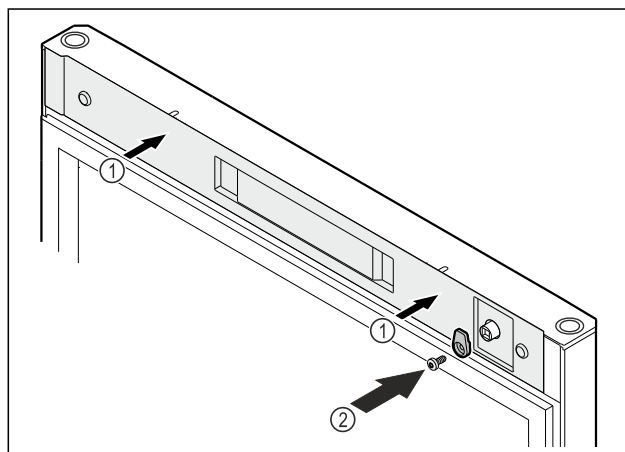

Fig. 55
- Set the cover back in place Fig. 55 (1).
- Screw on the door latch Fig. 55 (2).